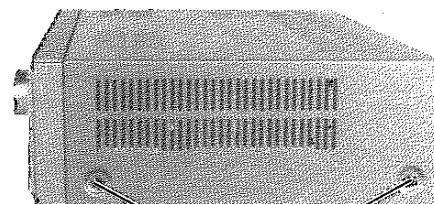

Figure 4
1. Remove six screw (A), (B) and (C) ($3\phi \times 8mm$) from both sides and back side, then the top cover can be removed as shown in Figures 4, 5 and 6.
1. Remove top cover as shown in Figures 4, 5 and 6.